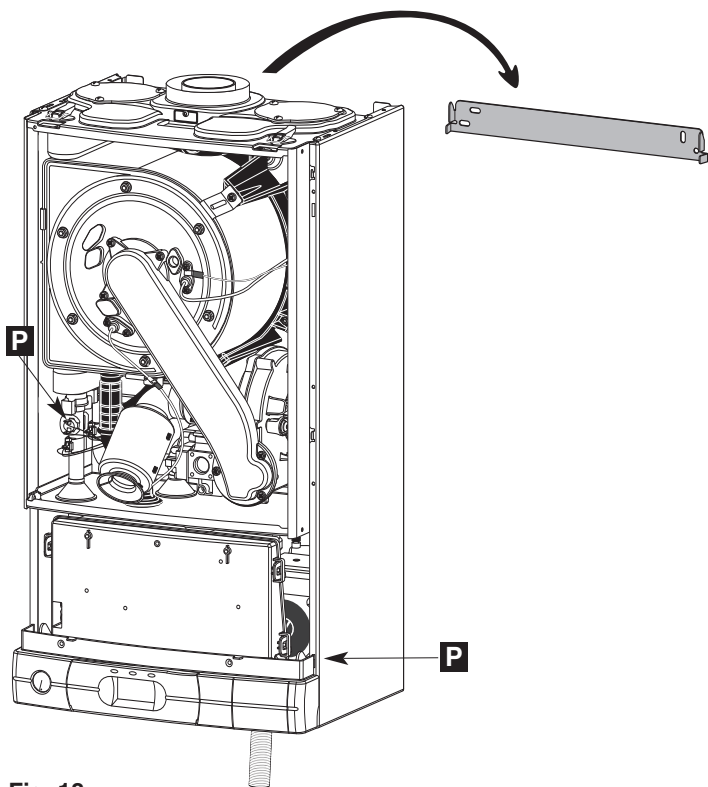

Fig. 18
Place the boiler on the wall on the hanging bracket (Fig. 18).
- Push in the tabs "**P**" (Fig. 18) on either side of the boiler and pivot the electrical box forward to gain access to the valve connections